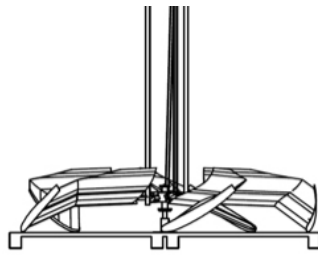

Figure 30. Lift Fan From Crate
4. Lift the fan off the shipping crate. Be careful not to damage blades (**Figure 30**).